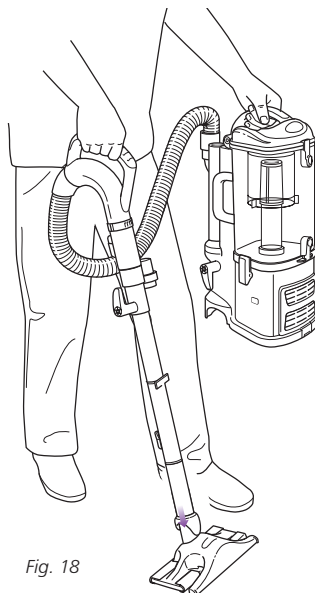

Fig. 18
- 2 Attach *Dust-Away*™ hard floor attachment onto the end of the extension wand. (Fig. 18)